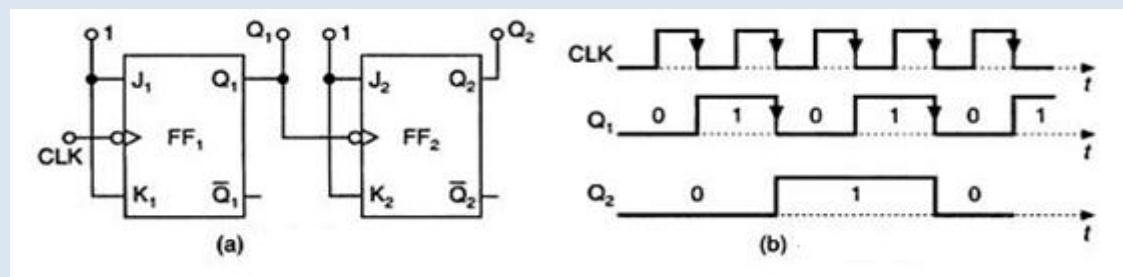

Figure 6.1.7 (a) Asynchronous 2 bit up counter using -ve edge triggered flip flops (b) Timing diagram
Counters may be synchronous or asynchronous counters as shown in Figure 6.1.7. In Asynchronous counters, flip flops are not triggered simultaneously. Synchronous counters are clocked such that each flip flop in the counter is triggered at the same time. This is accomplished by connecting the same clock line to each stage of the counter. Synchronous counters are faster than asynchronous counters because the propagation delay involved is less.
5. Observe when higher bit (Q2) is changing. In this case, Q2 is changing when Q1 is changing from logic 1 to logic 0 (At clock pulse 3). Since we require –ve edge counter which responds when clock is changing from 1 to 0 is required, connect Q1 as the clock for the next flip flop as shown in Figure 6.1.7 (a)
**Working principle:** For the clock pulse applied to FF1, the output of FF1 toggles. For the Q1 pulse applied to FF2, the output of FF2 toggles. Thus the 2 bit up counter counts in the order 0, 1, 2, 3, 0, 1, ....Figure 6.1.7 shows a 2 bit ripple up counter using negative edge triggered JK flip flops and its timing diagram.
3 Apply the +ve edge clock pulse to first JK flip flop (Observe the Clk signal in Figure 6.1.7